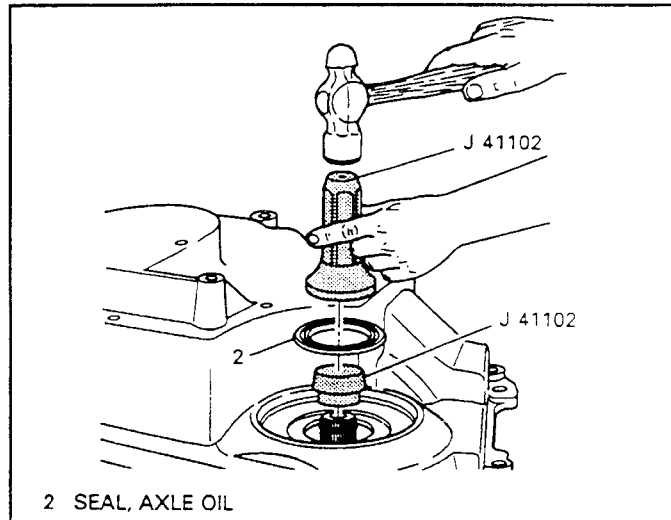

Figure 186
17. Install a new side cover axle seal into the side cover using tool J-41102 as shown Figure 186. Tool J-41102 installs the axle seal to a given depth and also spreads the seal to get it over the sleeve without damage.